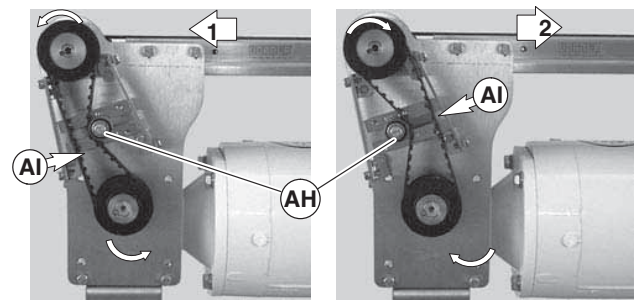

Figure 34
3. Depending on direction of conveyor belt travel (1 or 2 of Figure 34), position belt tensioner (AH) as shown.